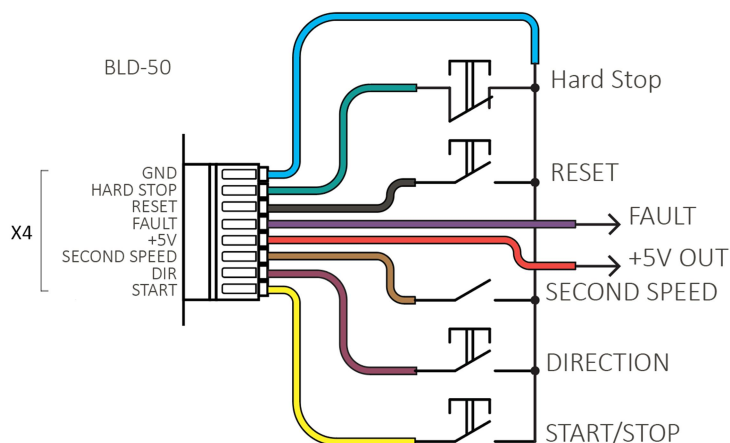

Fig.3. Connecting external control signals
The controller has external discrete control signals to provide main and auxiliary control functions. Control signals are connected to the terminal group X4 (figure 3).
4. Connect external control signals to the terminals in the group X4 if necessary (refer to the section 4 and fig. 3).